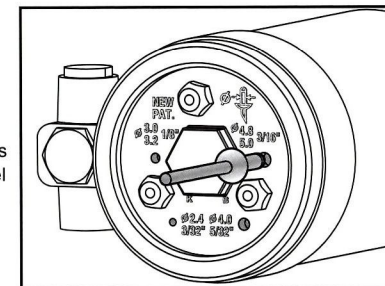

Fig.1
The patented RIVET SIZE HOLE GAUGE Design at the bottom of Air Cylinder End Cap ⑫ provides a great assistance of checking the rivet body diameter of the blind rivet to be fastened, find out the size marked beside the hole gauge, then choose the matched size nosepiece as the Working Nosepiece ①, so as to prevent spent mandrel from being stuck in tool after setting blind rivet. (Fig.1)